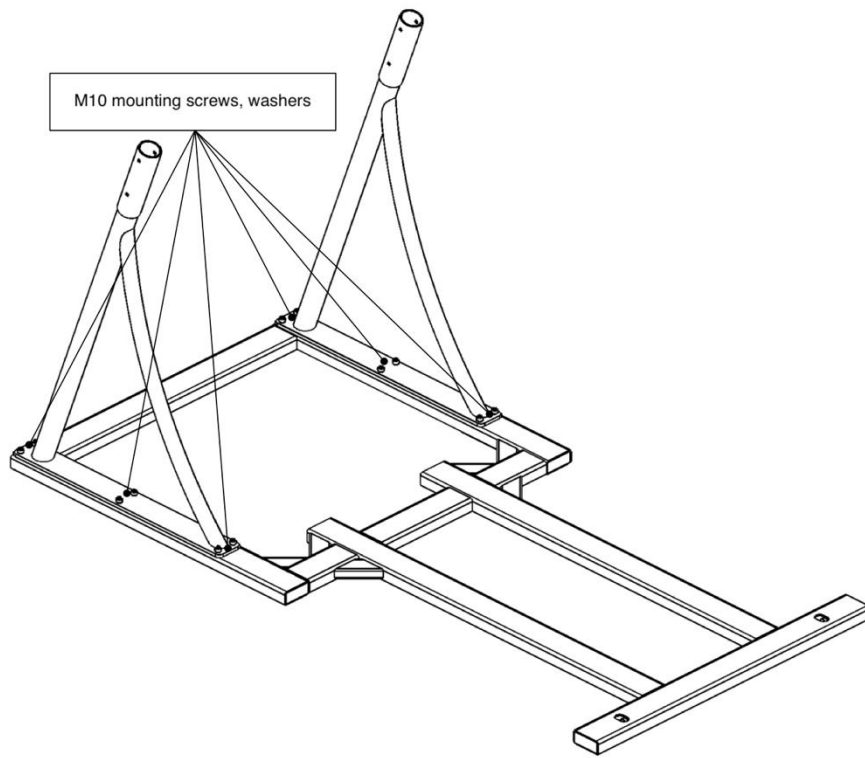

Figure 18 – Stage 1 of the body weight support system disassembly
- Secure the racks of the body weight support system, item [Ошибка! Источник ссылки не найден..2] by aligning the threaded holes in the base of the body weight support with the holes in the racks and by fastening them with the screws, item [Ошибка! Источник ссылки не найден..25] with washers, item [Ошибка! Источник ссылки не найден..26], as shown in the Figure 18, by means of a 8 mm hex wrench.